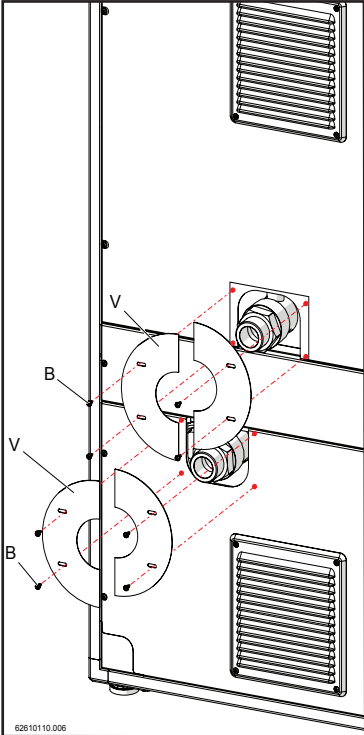

Figure 15-21
- 11.- Fix the metal plates "V", with screws "B", onto the back of the external cover, as shown in figure 15-21.